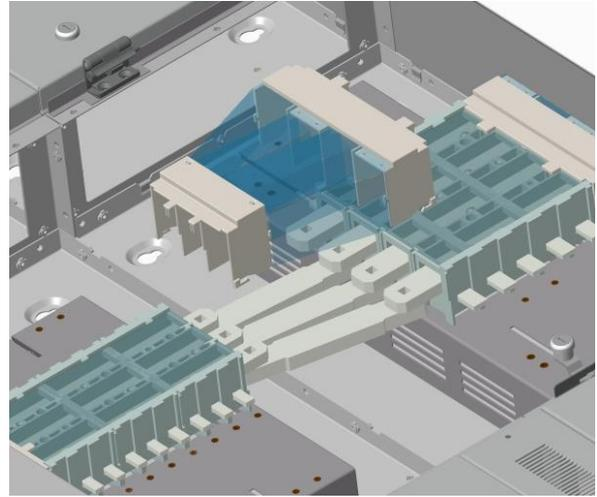

Fig. 7
- Once the busbar covers are assembled, they can be fitted in one piece, as shown in Fig. 7